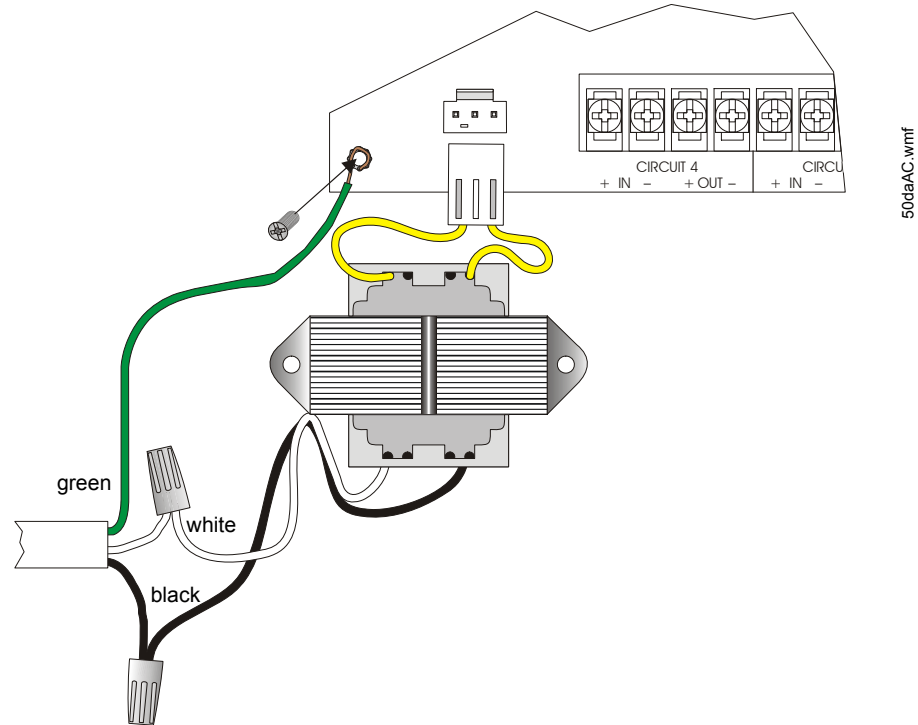

Figure 1.10 AC Connections
4. Connect AC power to the transformer, making sure to properly ground the unit. Then, plug the transformer output to the AC connector on the control panel. See Figure 1.10 below.